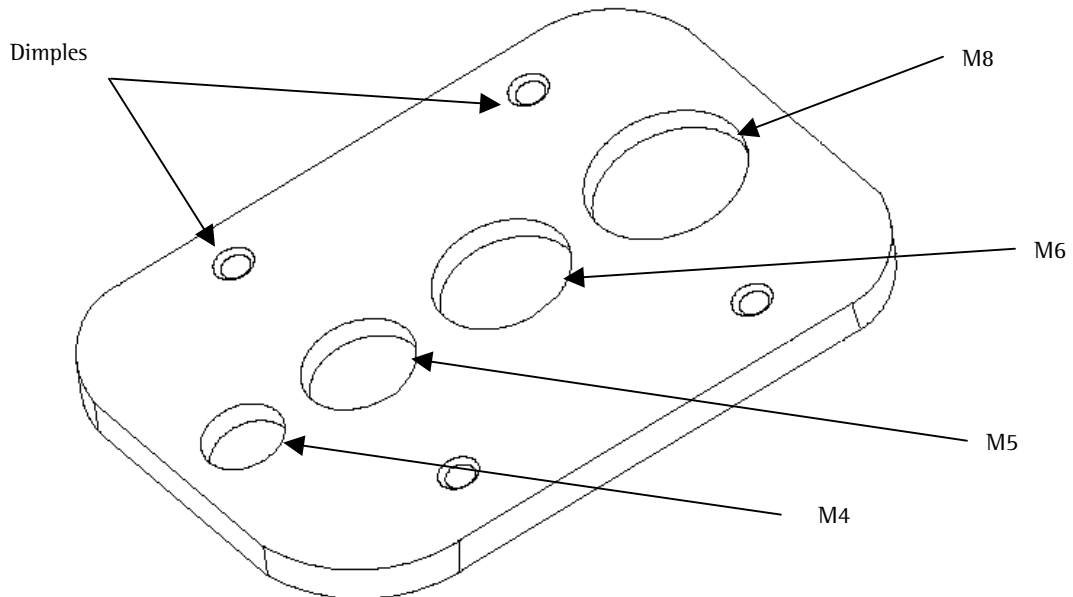

Figure 7. Griplates™ Orientation
**Examples:** If your display uses M8 x 20 Phillips head screws. Use the M8 mounting points (Figure 7).